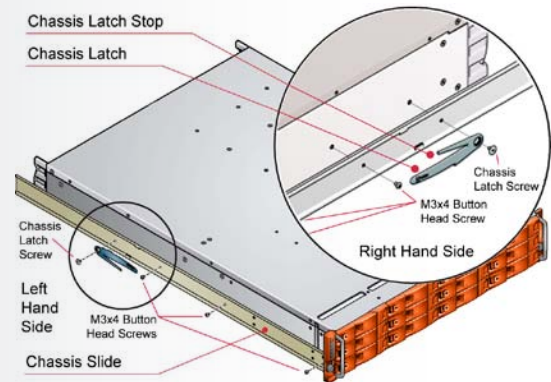

Fig. 26 - Securing Chassis Slides to Enclosure
5. Attach the left and right chassis slides to the enclosure sides using a total of 6 M3 x 4 button head screws (see Fig. 26), three each side. The front portion of the chassis slide has two tangs which insert into holes on the forward edge of the side panel.
6. Assemble the left and right chassis latches using the chassis latch screws. Ensure that the latch is orientated as shown in Fig. 26, with the spring arm located against its stop. On the right hand this is at the top, on the left it is at the bottom.